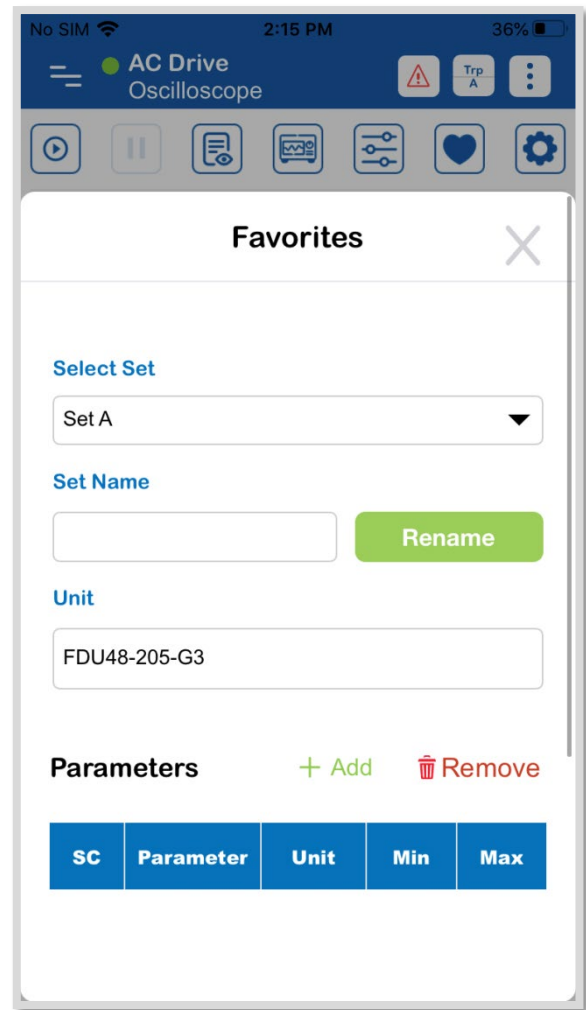

Figure 33: Oscilloscope favourite parameter list.
- **Add:** On clicking the Add button (see figure 33), the user can add the parameters in favourite list. After clicking on add button, the APP prompt the drop down list of parameter
- **Remove:** On clicking the remove button(see figure 33), the user can remove the favourite list parameters. To remove the parameter form list, the user needs to select the parameter from list by touch on parameter name. After touch the parameter will select and highlight on blue color. Now, user needs to press the Remove button, a prompt message appear to confirm the action. The user needs to press the yes button to remove the parameter or press the cancel button to retain the parameter.